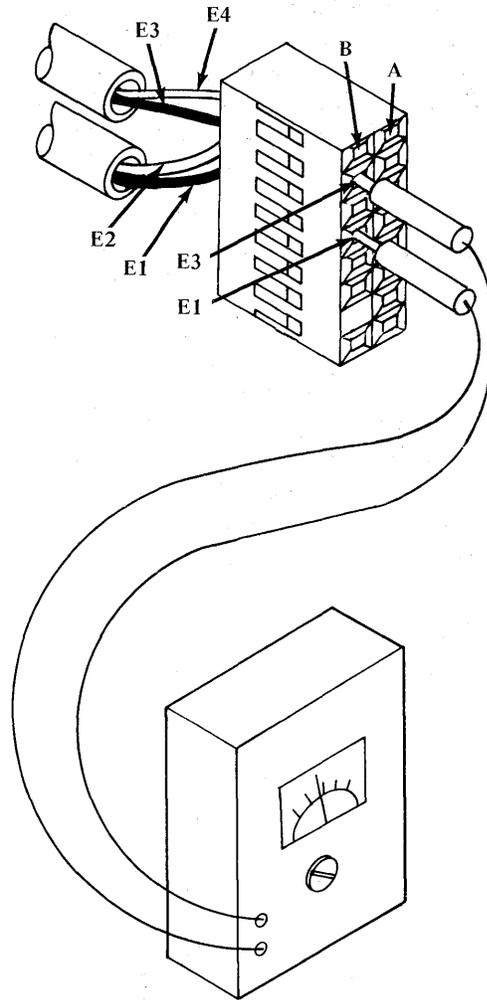

Figure 3-25. DC resistance check
- ( ) At the Series/1 location, use the volt-ohmmeter to measure for resistance between E1 and E3, by placing one meter lead into socket E1 and the other meter lead into socket E3 (Figure 3-25).